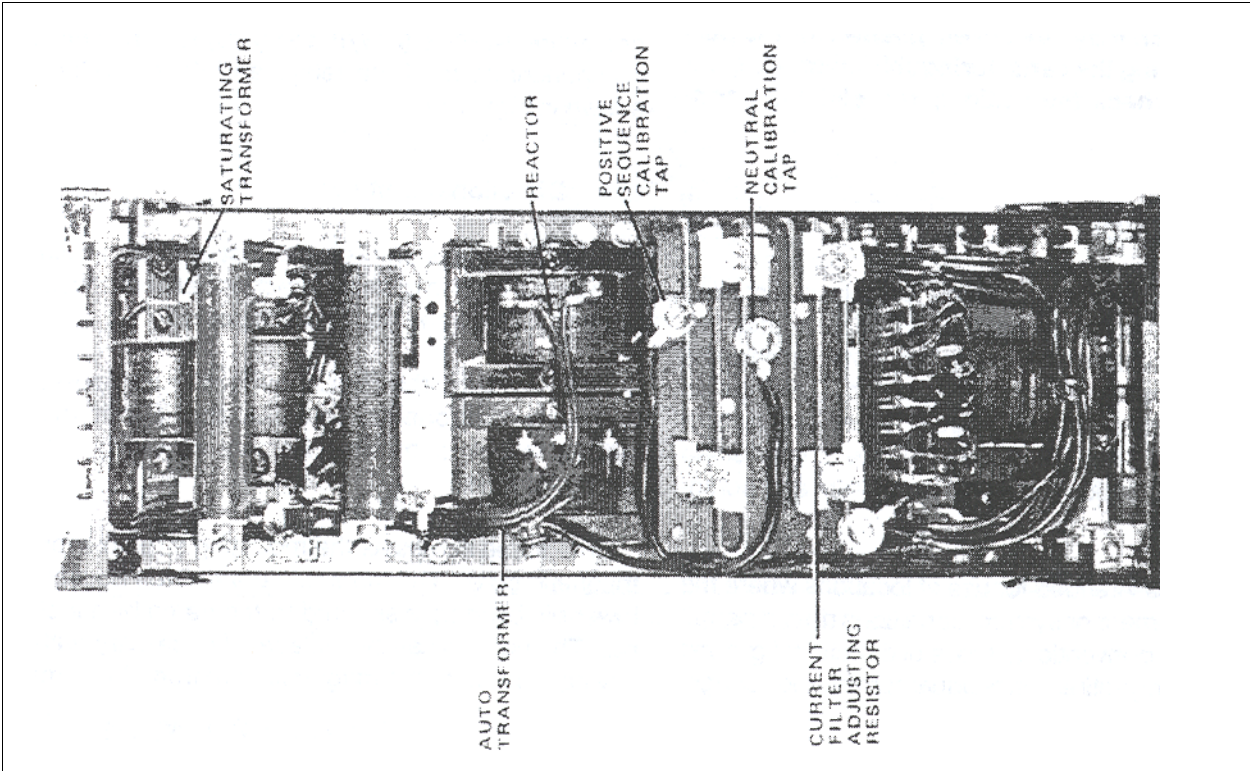

Figure 1. Type IRQ Relay without Case (Rear View)
The type IRQ relay consists of a directional cylinder unit (D) operating on negative sequence quantities, negative-sequence current and voltage filters, an auxiliary switch (CS-1 or TR-1), a time-overcurrent unit (CO), an instantaneous overcurrent unit (I), and two indicating contactor switches (ICS/I) and (ICS/T). The principle component parts of the relay and their location are shown in Figures 1 and 2.
2.1. Directional Unit (D)